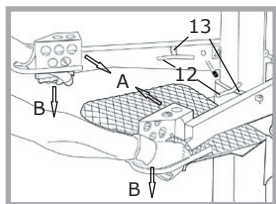

Abb. 10
Wood clamps (12) are attached to the operating arms to hold wood in place during the splitting operation (see Fig. 10).
Because of the attached pressure springs (13), the wood clamps can adapt variably to logs of any size (see Fig. 10).
Place the wood to be split on the splitting table and press both operating arms (A) inwards (see Fig. 10). This will fix the wood in place. Both control levers must be pressed downward (B) simultaneously to begin the splitting operation. This will set the splitting wedge in motion.